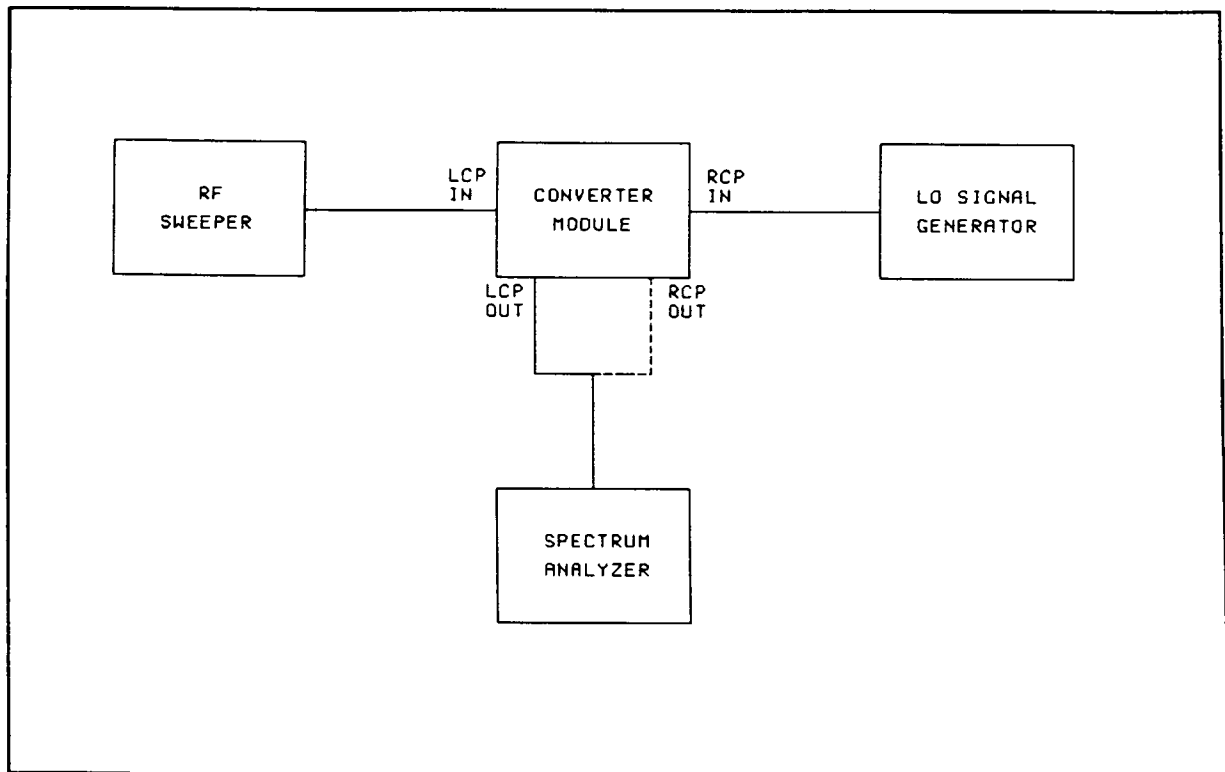

Figure 9 Setup for the Interchannel Isolation Test
1. Set up the equipment shown on Figure 9, below. Connect the RF sweeper to the LCP input. Connect the spectrum analyzer to the LCP IF output.